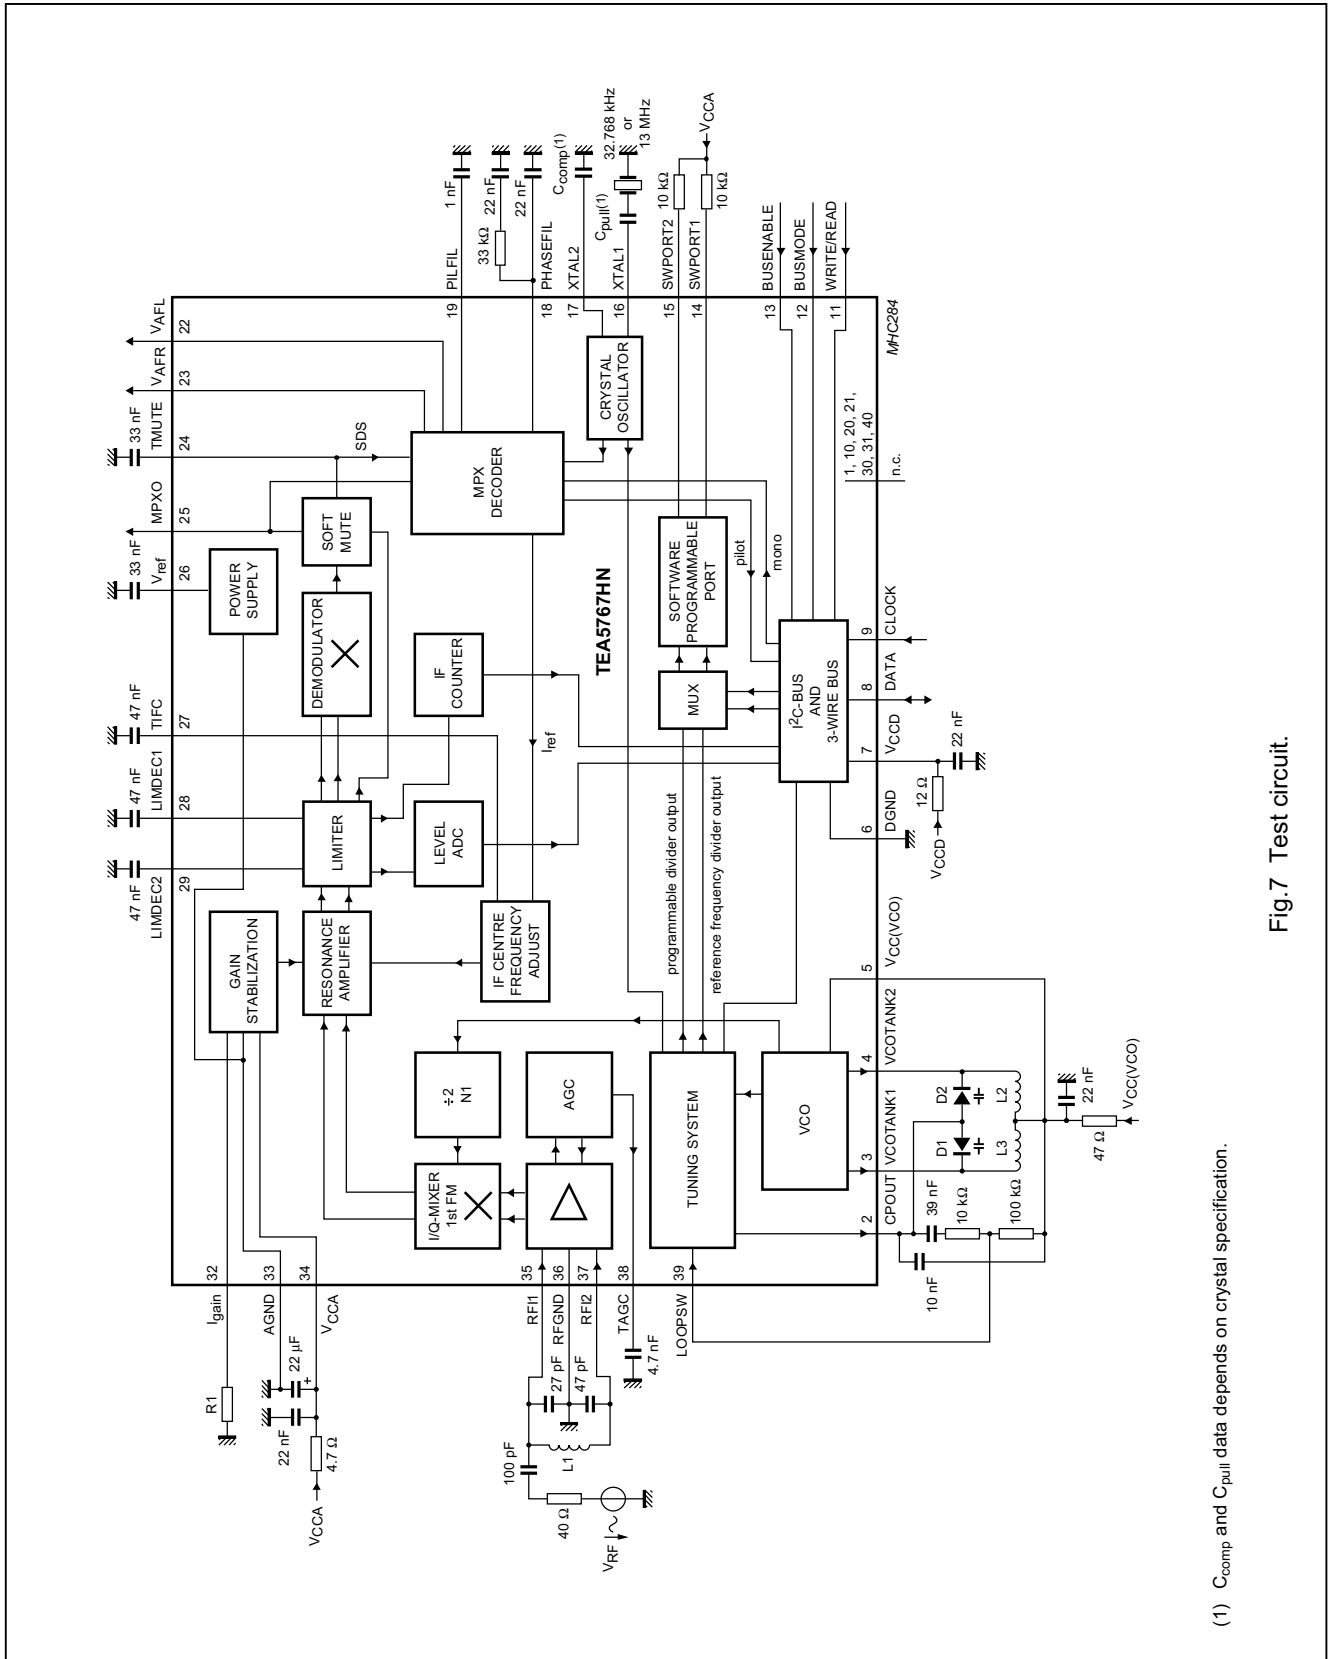

Fig.7 Test circuit.
- $V_{RF}$  in Fig.7 is replaced by  $V_{RF1} + V_{RF2}$ . The radio is tuned to 98 MHz (HIGH side injection).